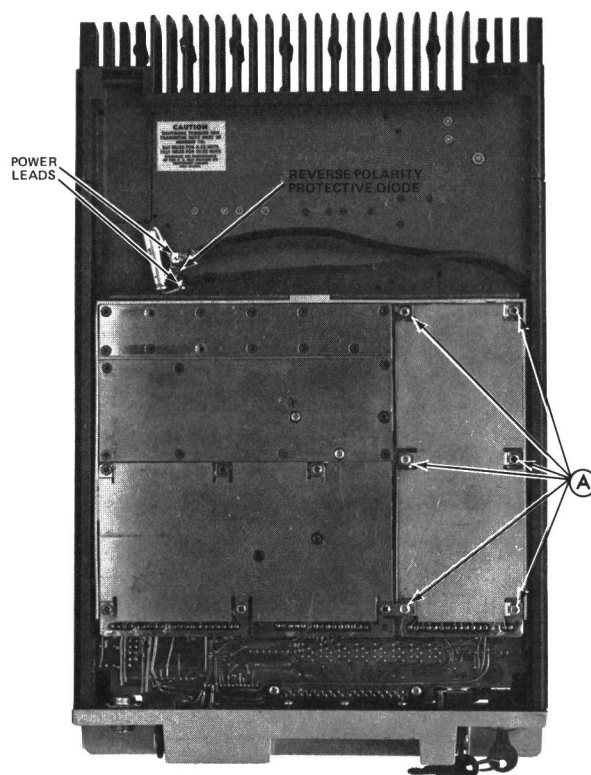

Figure 4 - Disassembly Procedure
2. Remove the top cover, then loosen the two bottom cover retaining screws and remove the bottom cover (See Figure 4).
- To remove the exciter board: (See Figure 4)
1. Unplug the exciter/PA cable (B).
2. Remove the six screws (A) holding the exciter board and its bottom cover to the module mounting frame.
- To remove the PA assembly (See Figure 4)
1. Remove the PA top cover and unplug the exciter/PA cable (B), the antenna, receiver and PTT cables (C).
2. Remove the four side-rail screws (D), and unsolder the power cables from the bottom of the PA assembly if desired.